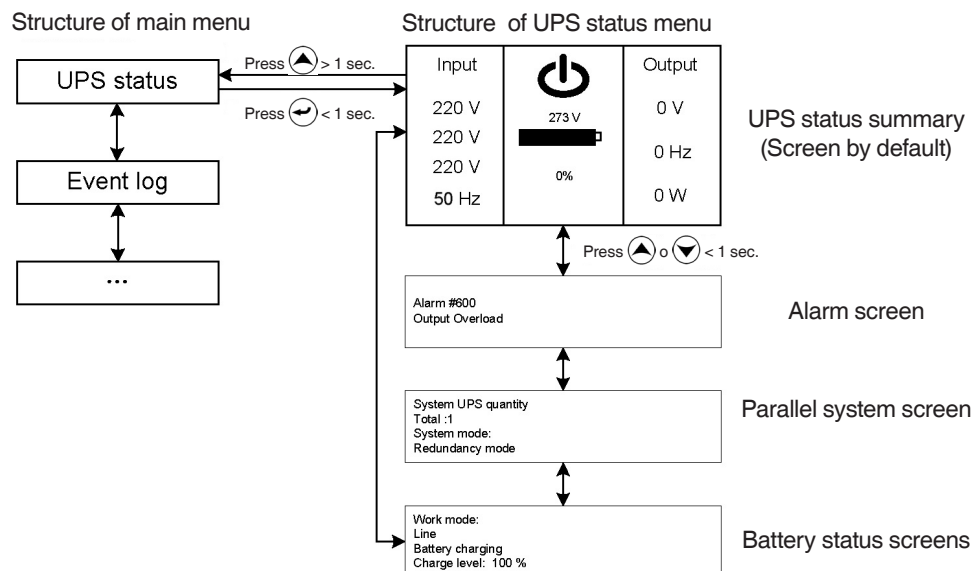

Fig. 31. UPS status screen.
- The contents of the UPS status menu, is the same as the main screen (see figure 31).